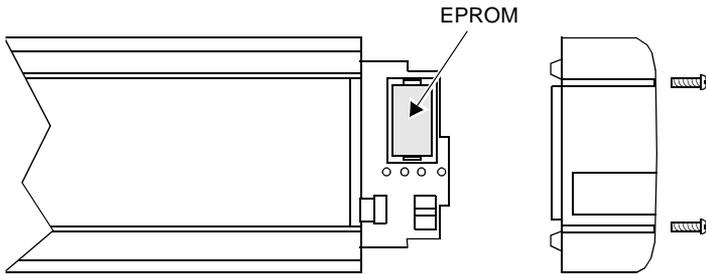

Figure 15. Replacing the EPROM
3. Remove the EPROM from its socket. (See Figure 15).